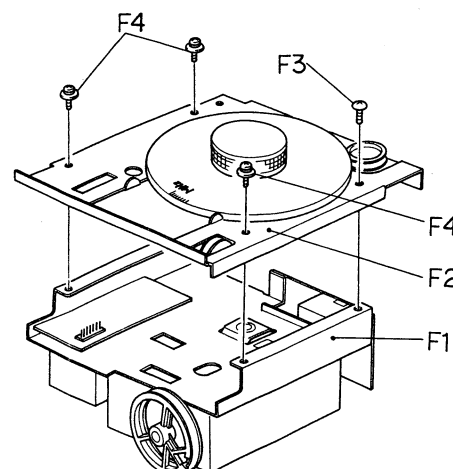

Fig. 5.6
- (7) Refer to Fig. 5.6. Mount F2 (dial pulley chassis ass'y) to F1 (FE chassis ass'y) by fastening F3 (screw M3x6 truss head) and F4 (screws M3x6 philips pan head (3A)).